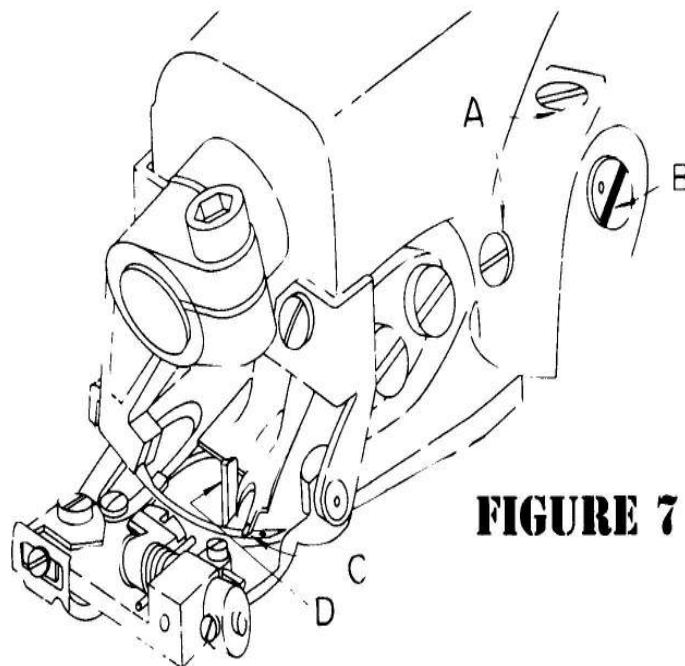

FIGURE 7
2. Any time a looper is moved or changed, recheck the looper timing and reset if necessary. Proper looper timing is absolutely essential for correct stitch formation. As described in detail below, a properly timed looper will pass over the needle in the correct position to pick up the loop, and also clear the chain-off pin, feeder, looper slot, and needle. The first check point for timing the looper is at the position where the looper picks the thread loop off the needle during the needle return stroke. Referring to **Figure 7, (Point "C")**, the long prong of the looper should pass over and just clear the scarf of the needle, approximately $\frac{3}{32}$ " (2.4mm) behind the end of the needle eye. At the same time, the short prong of the looper should pass over the needle with about $\frac{1}{64}$ " (.406mm) clearance, and must be set that it also clears the chain-off pin (**item "D" in Figure 7**).
5. If, after completing the above adjustments, it is found that the looper is either too low or too high, it will be necessary to adjust the eccentric stud. First loosen the two set screws (**item "A" in Figure 7**). Place a wide blade screwdriver in the slot of the eccentric stud (**item "B" in Figure 7**) and, using a slight turning motion, raise or lower the looper as required. Once the proper height is established, check to see whether the looper must be moved to the left or to the right prior to retightening the eccentric block set screws. If such a movement is required, it may be obtained by lightly tapping the eccentric block in the correct direction with the handle of a screwdriver.
1. After considerable service, it may become necessary to replace the chain off pin, (*Item "D" in Figure 7*).